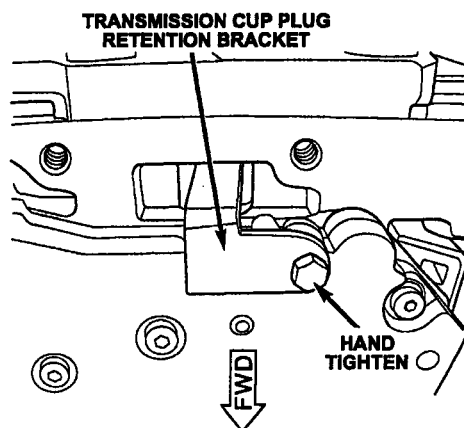

Figure 9
7. Install the valve body bolt and hand tighten (Figure 9).